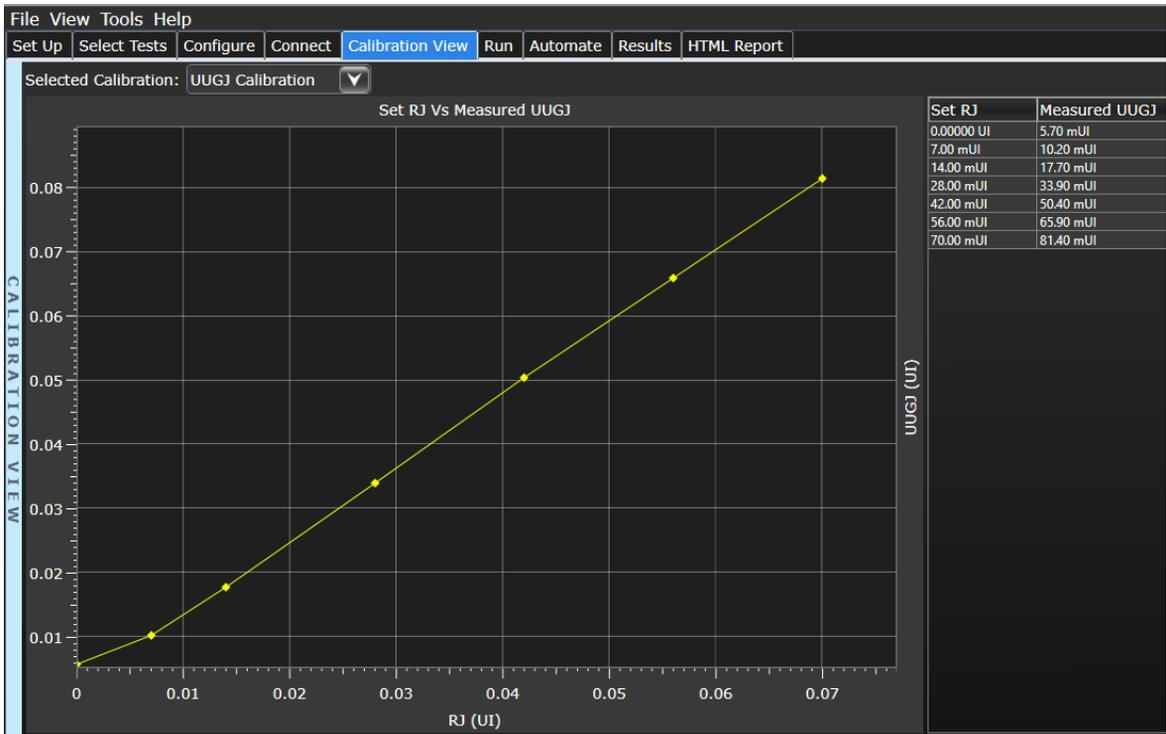

Figure 76 UUGJ Calibration calibrated data for VSR Host in Calibration View tab
- measured UUGJ versus the set RJ in graphical and tabular formats in the Calibration View tab (Figure 76)